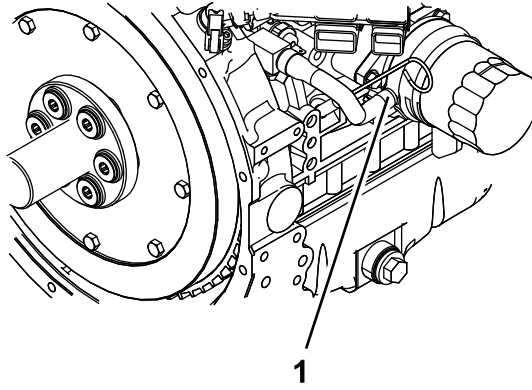

Figure 57
6. Remove the coolant hose from the oil cooler and drain the coolant from the engine block (Figure 57).